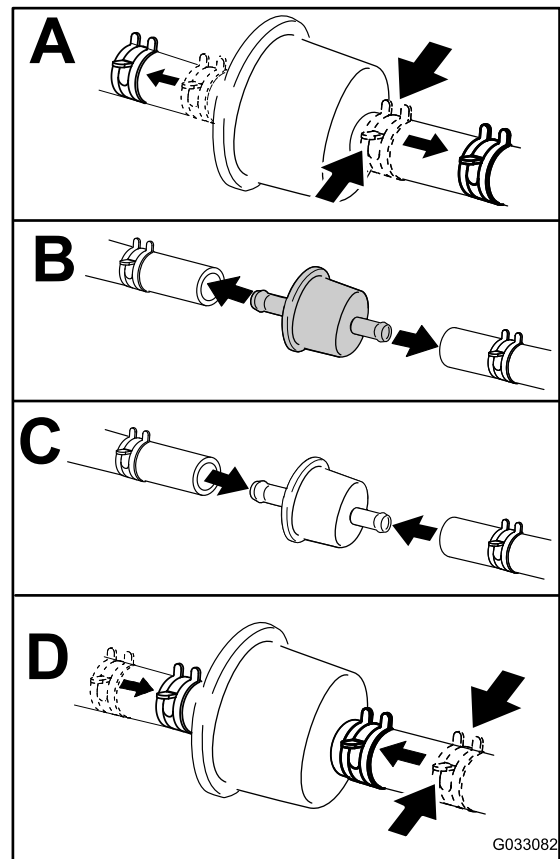

Figure 49
4. Replace the fuel filter as shown in Figure 49.